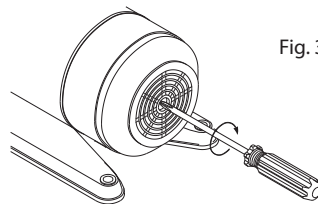

Fig. 3
5.1.3. For start up of the first operation or after long time inactivity, please place a screwdriver against the shaft at motor end and turn clockwise to see if rotor spins freely (Fig. 3). If it is, you are free to run the pump.